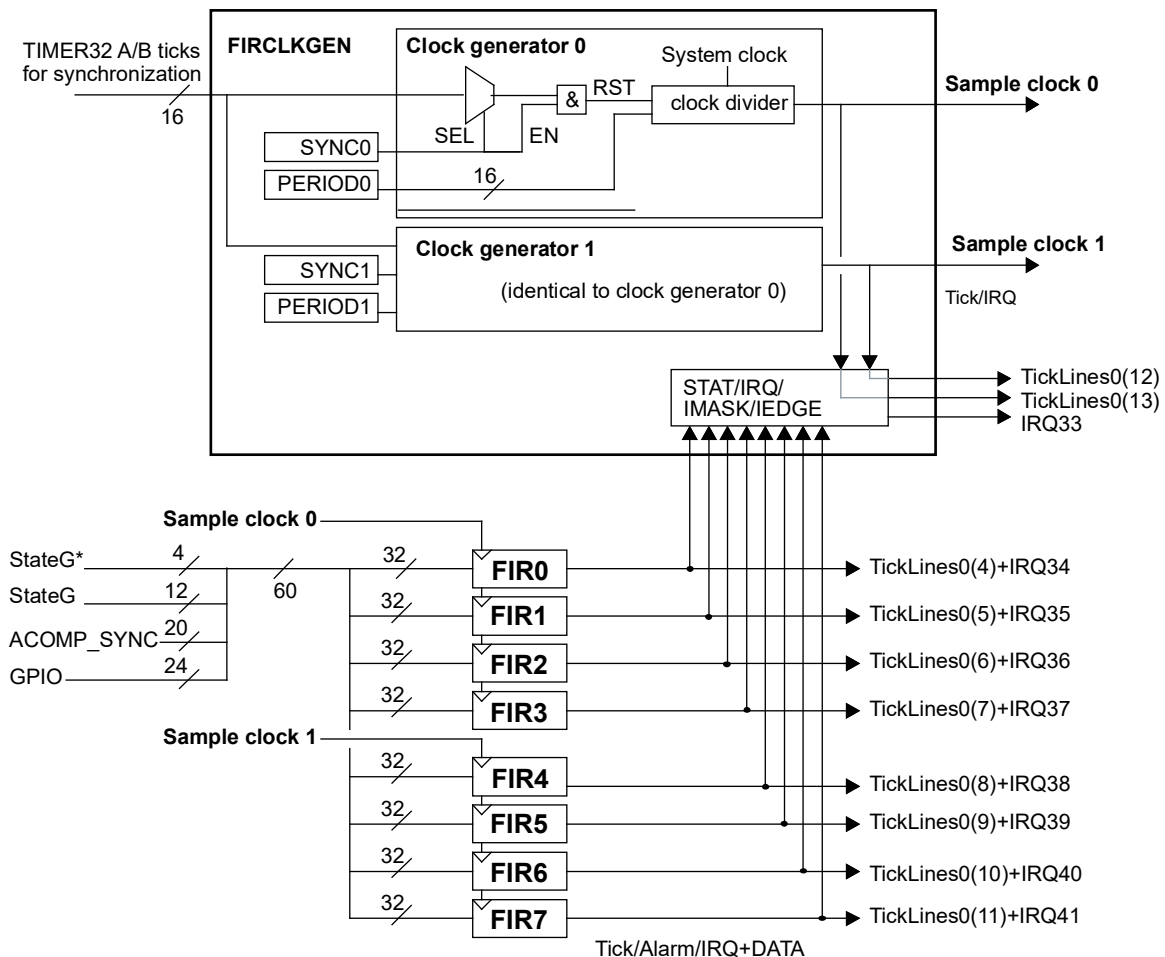

Figure 71. Block diagram of the FIR block with detail of clock generator.
In total there are eight FIR filters clocked by two sample clock generators as shown in Figure 71, which also shows some of the internal structure of the FIRCLKGEN block. Clock generator 0 clocks FIR 0-3 while clock generator 1 clocks FIR 4-7. The sample clock is generated by dividing the system clock by an integer, the resulting clock frequency is (system frequency)/(PERIOD+1), where PERIOD is the configuration value in the FIRG.PERIOD0 or FIRG.PERIOD1 register. Optionally, the sample clock can be synchronized to system timer ticks (TIMER32 A/B, see section 53.9). If synchronization is enabled (FIRG.SYNCx.EN=1), then the clock divider will restart any time a tick occurs on the timer selected by FIRG.SYNCx.SEL. Rising edges of the sample clock can optionally be configured to generate ticks (TickLines0(13) for clock generator 0, TickLines0(14) for clock generator 1) or assert interrupt line 33. See section 28.2.1.